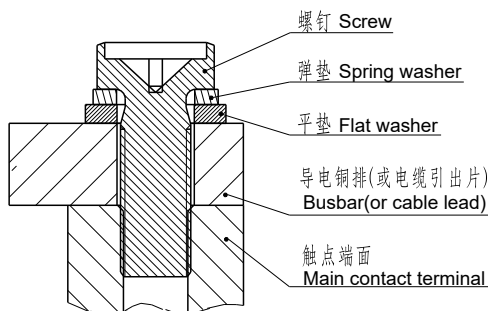

图1(Fig1)
9.当产品使用1个及多个导电铜排连接时, 请确保导电铜排与触点端面紧密贴合(多个铜排需确保大电流的导电铜排最贴近触点端面, 小电流的导电铜排其次), 然后是平垫圈、弹簧垫圈、螺钉。不正确的连接顺序可能造成严重过热, 参考下图1:
When the product is connected with one or more conductive copper bars, please ensure that the conductive busbars closely fit the contact terminal surface (The conductive copper bars with high current must be closet to the contact terminal surface if there are multiple copper bars and then conductive busbars with low current), followed by flat washers, spring washers and screws. Incorrect connection sequence perhaps give rise to severe overheating. Refer to Figure 1 as follows: